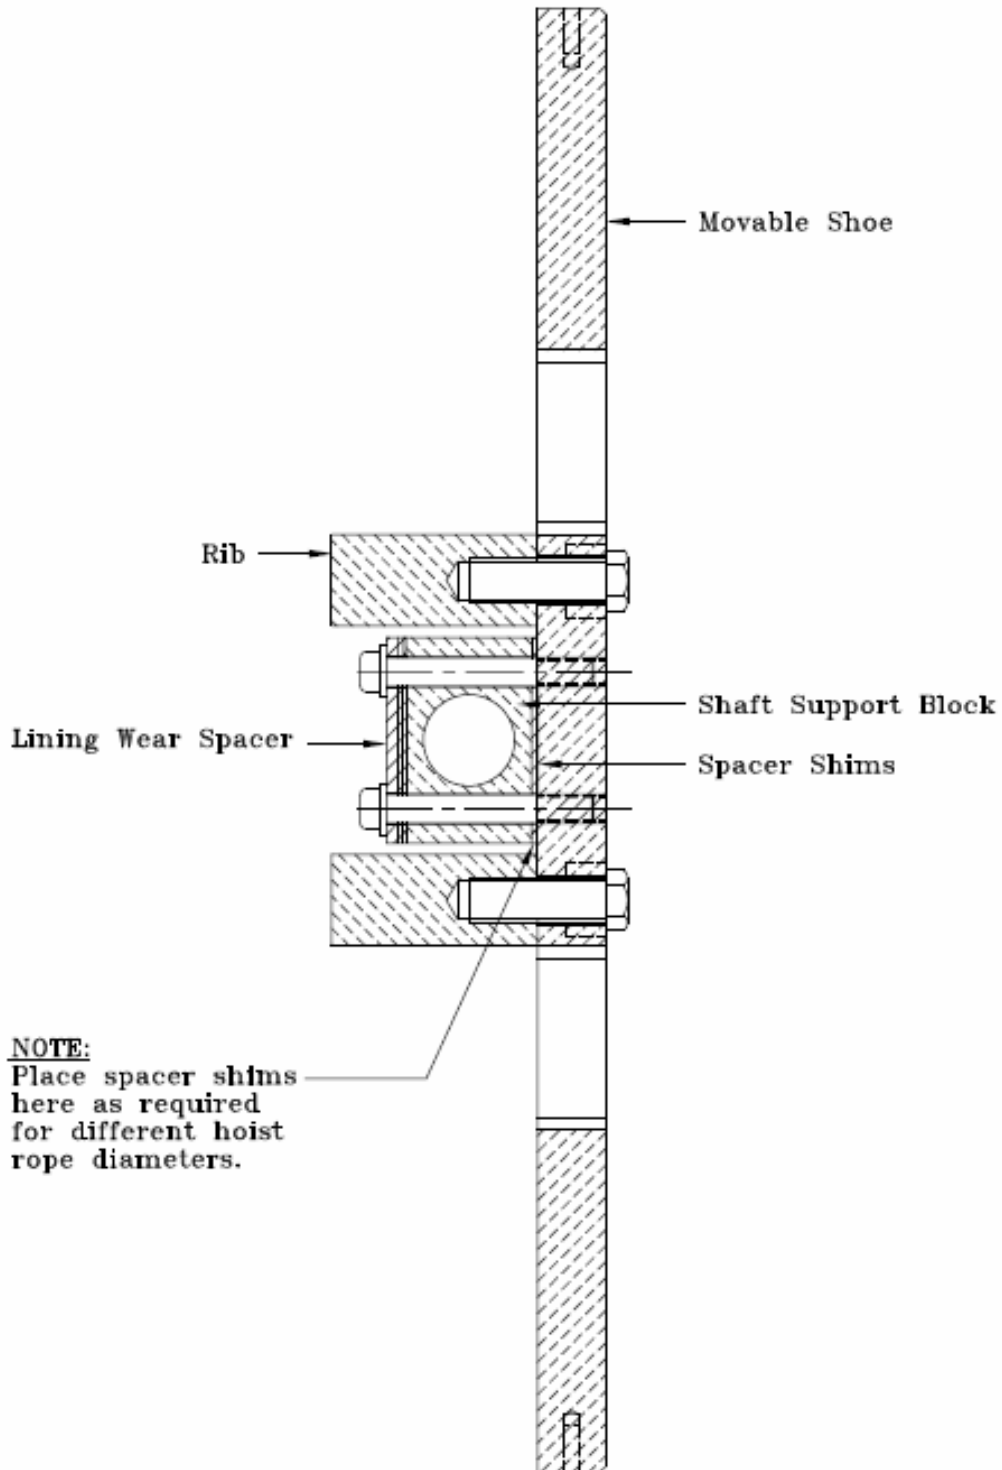

FIGURE 6
- If the lining wear-in is not completed after the grooves in the linings have reached approximately 1/16" deep, spacer shims (Figure 6) can be moved from between the shaft support blocks and moveable shoe to the back of the support block to allow the rotating shaft to completely turn the corner and move up the cam. Refer to Chart 3 for initial spacer and shim set-up. **Note:** Before changing spacers, first install security set screws to prevent unintended "ROPE GRIPPER™" activation.
2. If lining wear is not excessive (less than 3/16”), spacer shims (**Figure 6**) can be added between the shaft support blocks and the moveable shoe. Remove the bolts that hold the blocks to the movable shoe, place the lining wear spacer shims under the blocks and reinstall and tighten bolts. Addition of shims will move the rotating shaft toward the bottom end of the cam.